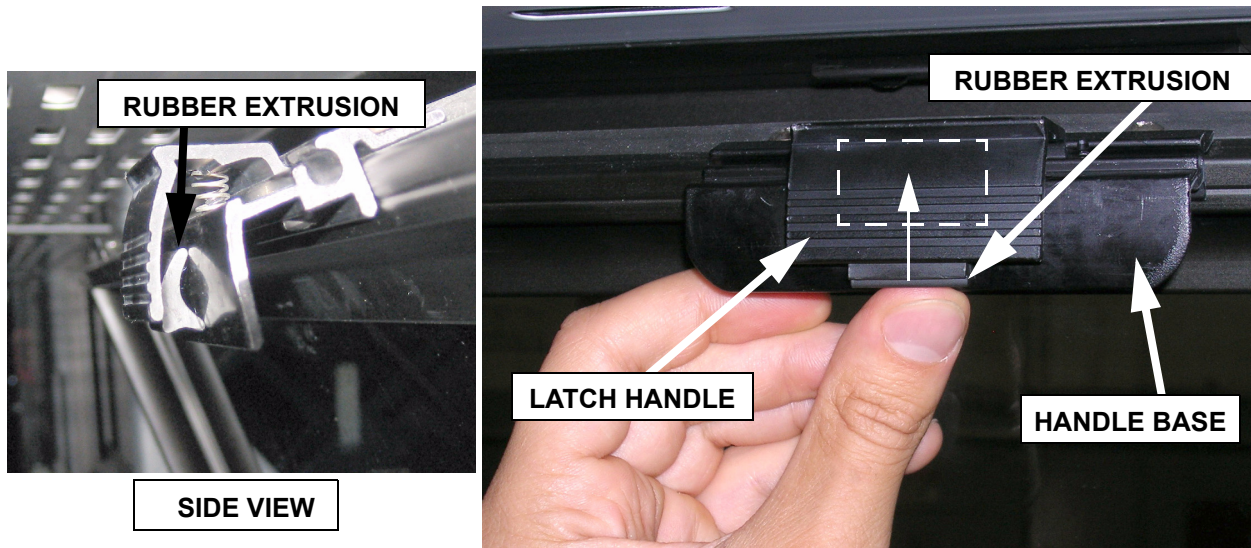

Figure 1-1 Transom Window
1. Open the transom window. See Figure 1-1
2. Place rubber extrusion between the latch handle and handle base. See Figure 1-1
3. Slide rubber extrusion upward. See Figure 1-1